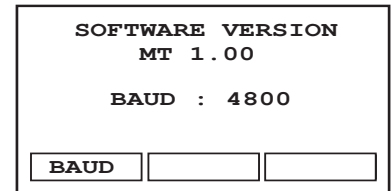

Fig.39. Baud rate menu
1. Press the SET UP key and keep it pressed for approx. 2 s until the Baud menu is displayed (see fig.39) :